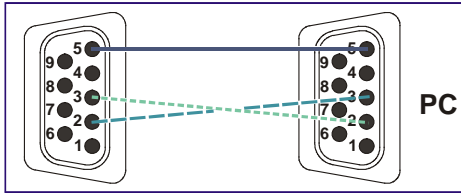

Figure 9: Crossed Cable RS-232 Connection
**Method A (Figure 9)**—Connect the RS-232 9-pin D-sub port on the unit via a crossed cable (only pin 2 to pin 3, pin 3 to pin 2, and pin 5 to pin 5 need be connected) to the RS-232 9-pin D-sub port on the PC.